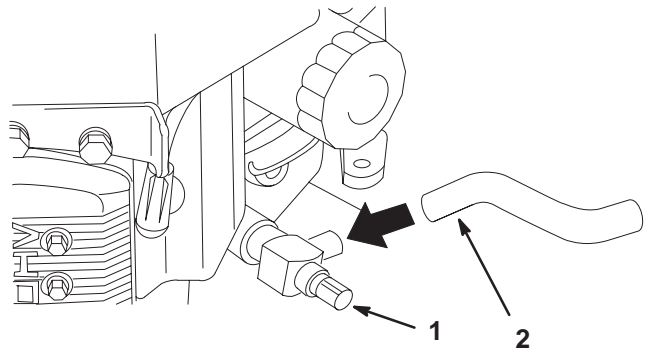

Figure 32
7. Rotate oil drain valve to allow oil to drain (Fig. 32).
9. Remove the drain hose (Fig. 32).